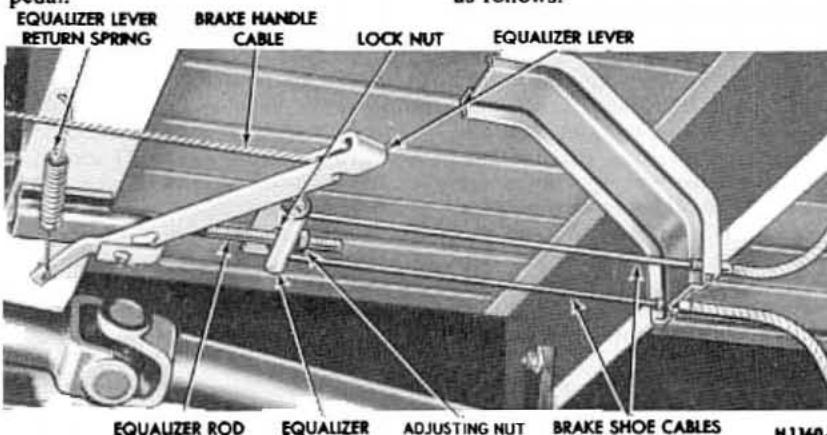

Fig. 100—Parking Brake Linkage Adjustment—Econoline
4. Turn the lock nut in front of the equalizer (Fig. 100) several turns forward.